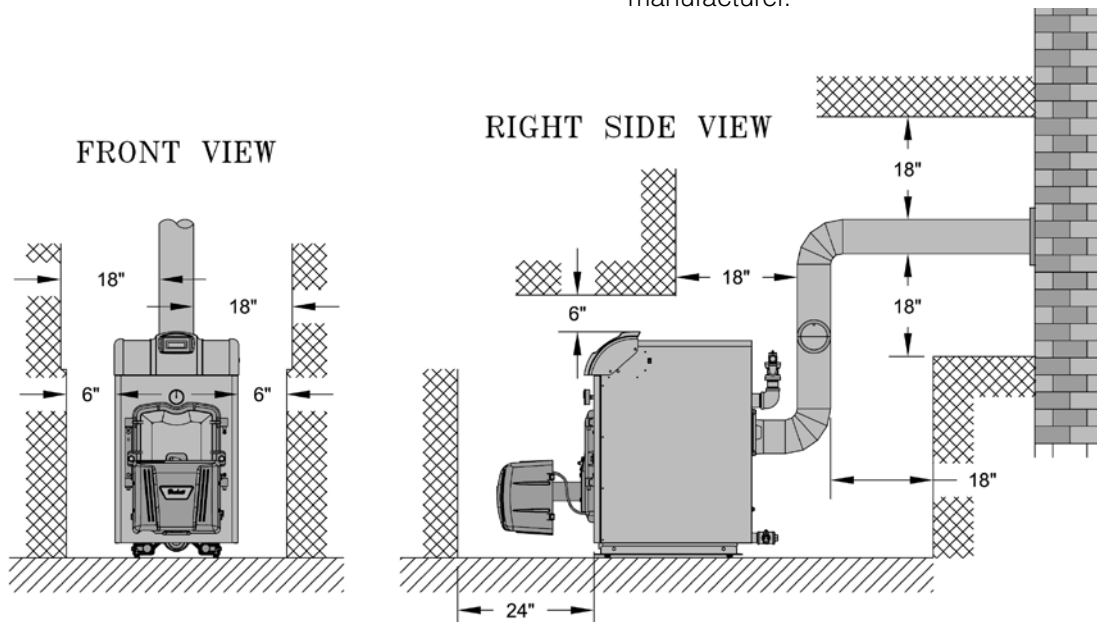

Figure 2A: Chimney Vented Boiler - Minimum Installation Clearances To Combustible Materials (Inches)
(Note: This dimension will also be controlled by horizontal to vertical to horizontal smokepipe arrangement - **Chimney Vent** (see Figures 2A and 13).
5. For minimum clearances to combustibles materials. See Figures 2A and 2B.